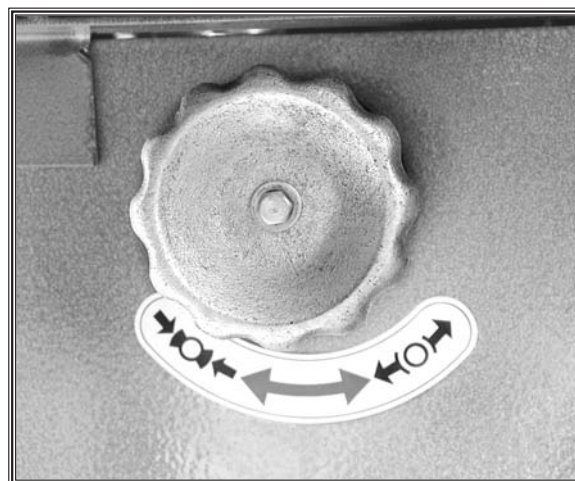

Figure 21. Spindle lock on the left side of the cabinet.
2. Loosen the spindle lock on the left side of the cabinet (see **Figure 21**).